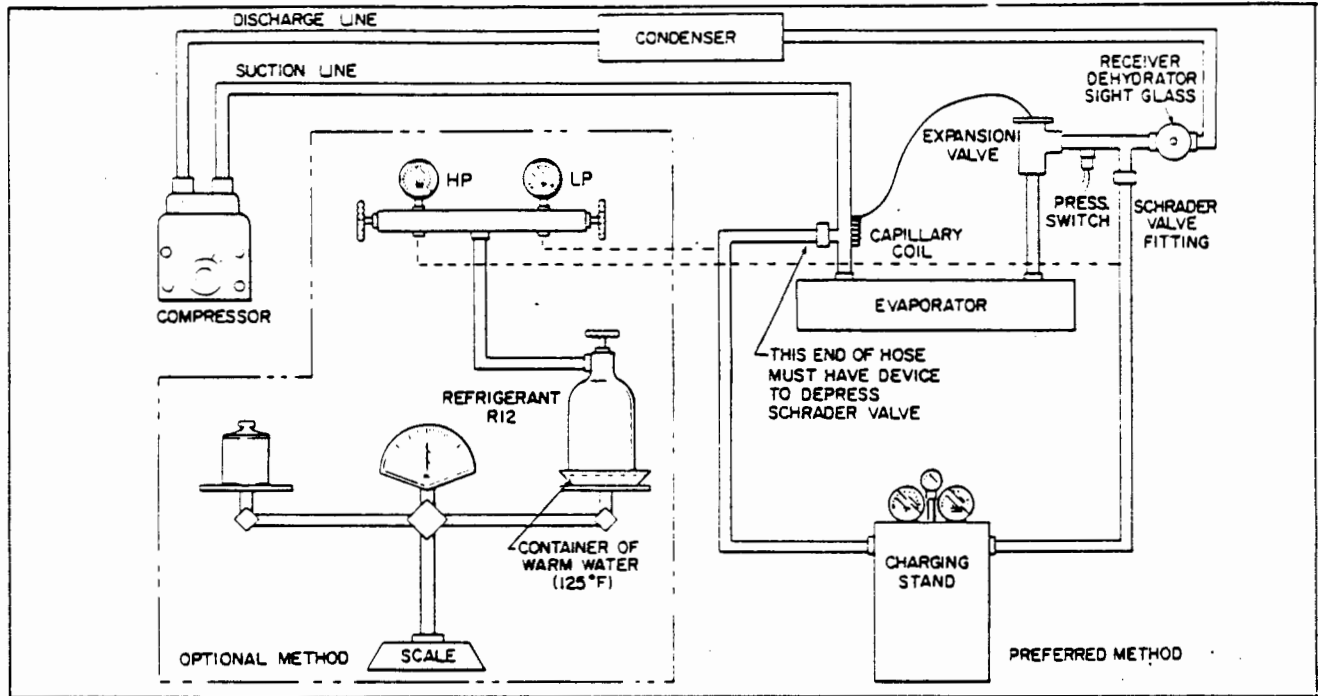

Figure 21-30. Charging Hookup
1. With the system discharged and evacuated, proceed to hook-up the charging stand. (Refer to Figure 21-30.)
1. With the system evacuated connect the refrigerant charging hose to the manifold (refer to Figure 21-30) and purge the charging hose of air.
2. Connect a charging hose to a refrigerant cylinder and also to the Schrader valve fitting on the suction line. (Refer to Figure 21-30.)